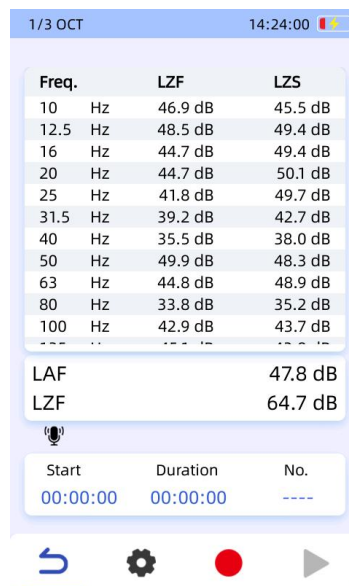

Fig 6.46 Data Mode
- a. Manual Mode: Users can manually start and stop measurements from the main interface. In this mode, as shown in Figure 6.46, the testing is controlled solely by the user, making any time settings in the testing mode configuration ineffective and uneditable.